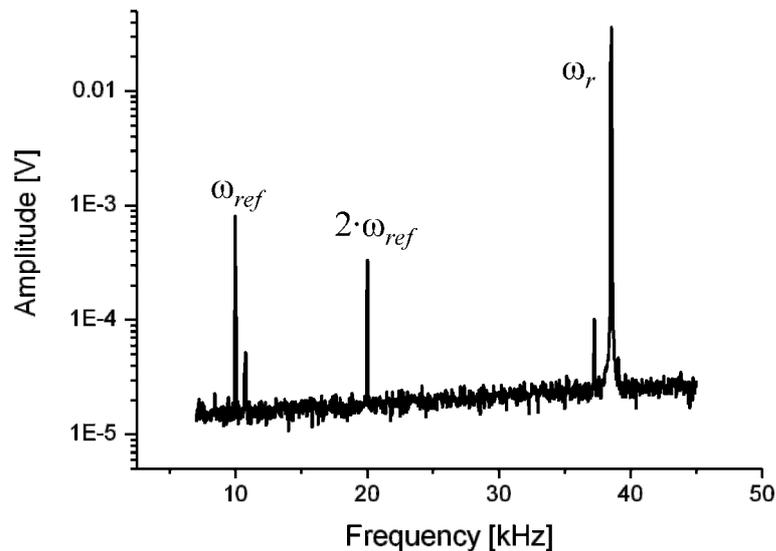

Figure 5: Frequency spectrum of the oscillating cantilever
Inserting equation (6) in (5) and using power-reduction formulas of trigonometric functions one can expect a force between tip and sample at the frequency  $\omega_{ref}$  as well as at  $2 \cdot \omega_{ref}$ . Figure 5 confirms this prediction: It shows the frequency spectrum of the cantilever oscillation with clear signals at the mechanical excitation frequency  $\omega_r$  and at the frequencies of the first and second harmonic of the electrical excitation.